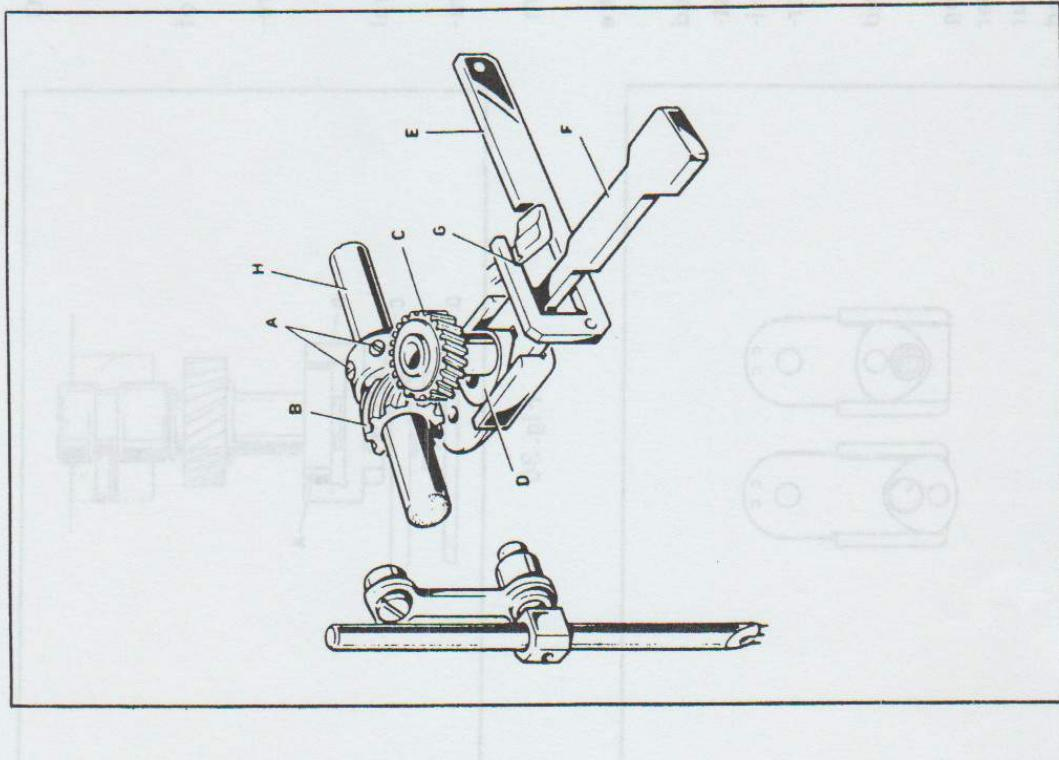

Fig. 32
- loosen the two screws A (fig. 32) and, holding the balance wheel firm to prevent the needle bar moving from its highest position, with your fingers rotate gear B together with gear C and relevant eccentric D until the latter is brought to its correct position.
- a small plate E (fig. 32),
- now rotate the balance wheel by hand until the position shown in fig. 32 is reached, namely, until the V of the fork corresponds perfectly with the two V-shaped sectors of the eccentric.
- Proceed as follows (fig. 32):
- extract zigzag plate and replace it with that of the gauge E (fig. 32);